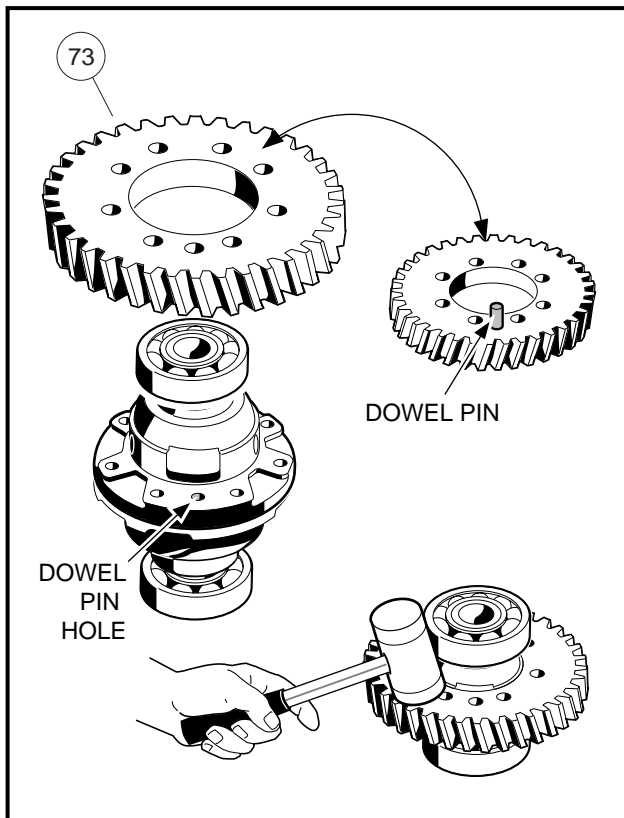

Figure 16-71 Ring Gear
6. Position the output ring gear (73) (**Figure 16-48, Page 16-20**) on the carrier case, visually aligning the dowel hole in the carrier case with the dowel pin in the ring gear. Using a plastic or rubber mallet, tap the ring gear into place on the dowel pin as shown (**Figure 16-71, Page 16-30**).